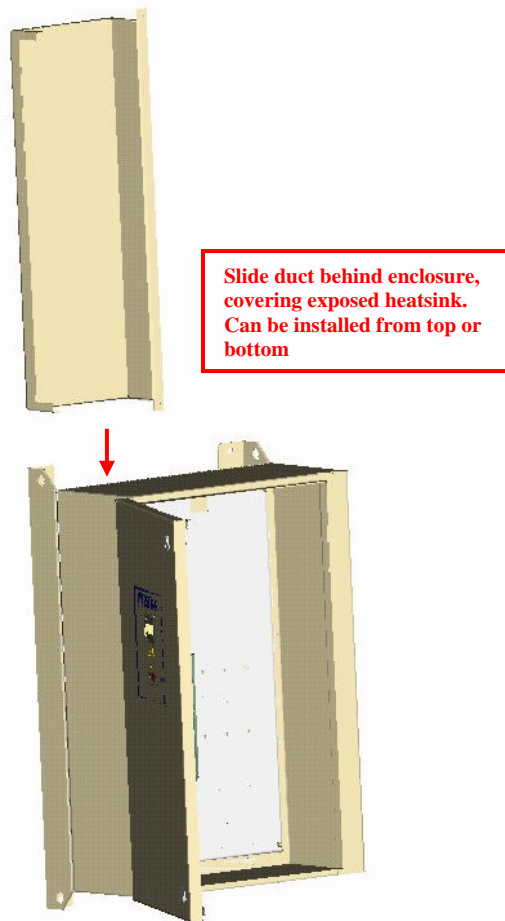

Figure 4 – Duct Installation
Refer to Figure 4 – Duct installation
- (5) Retrieve the duct from the heatsink filter kit. The duct is the large sheetmetal piece to which the filter housings mount.
- (6) Orient the duct as shown in Figure 4, so that the (4) holes in the side of the duct will align with the (4) holes in the side of the enclosure's mounting leg, and the (2) clinch nuts align with the (2) holes which screws were removed from.
- (7) Slide the duct behind the enclosure such that it surrounds the exposed drive heatsink. It is possible to install this duct from either the top or the bottom while the enclosure is mounted to a wall.